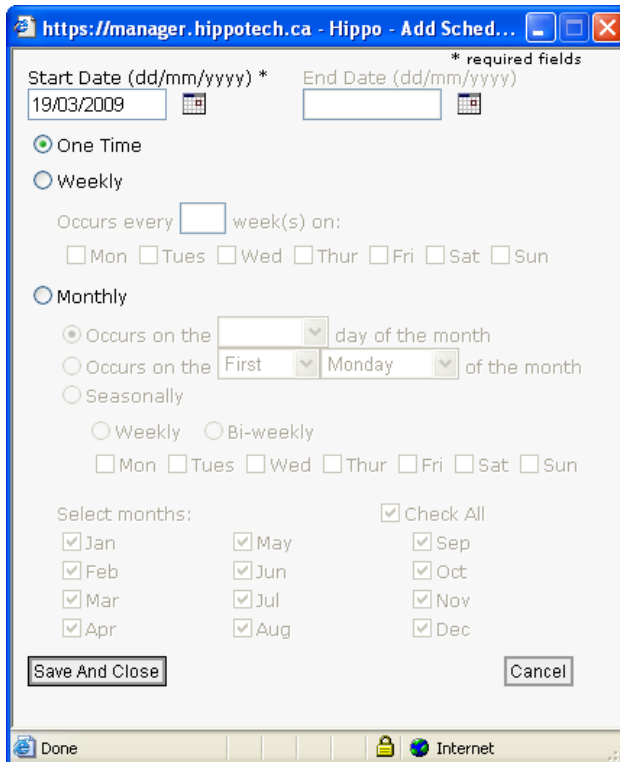

Figure 41: Schedules
- d. Schedules (identifies how often the work order will be generated (See Figure 41))